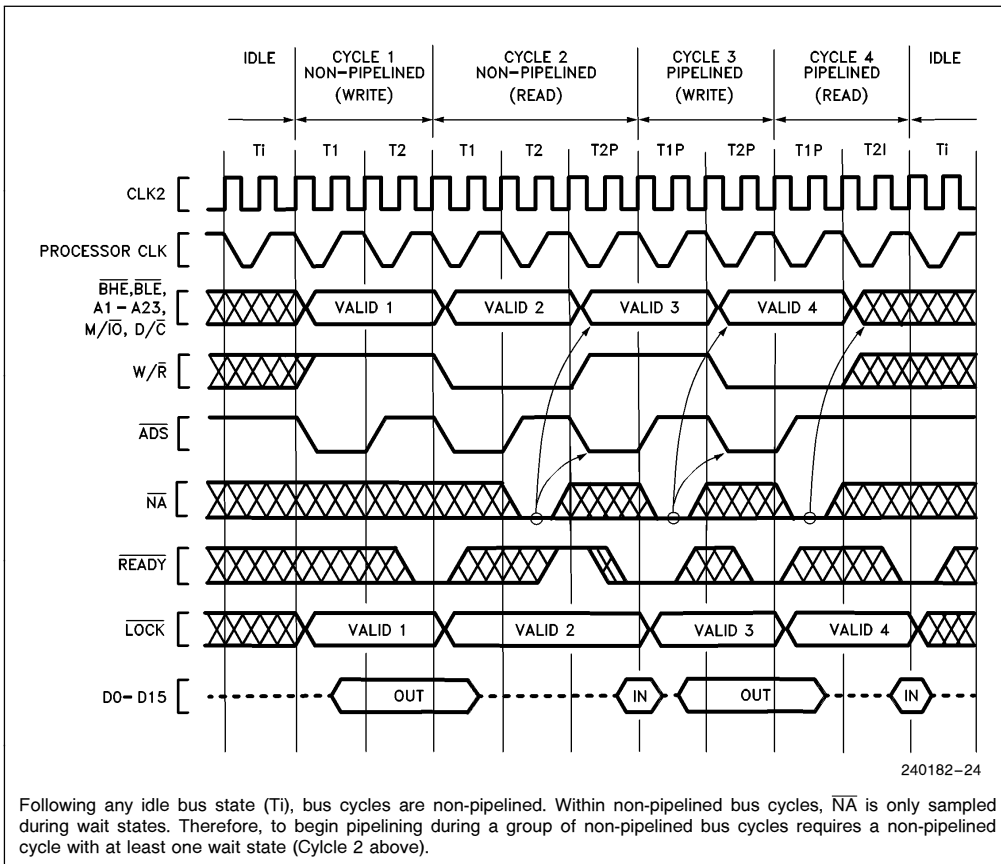
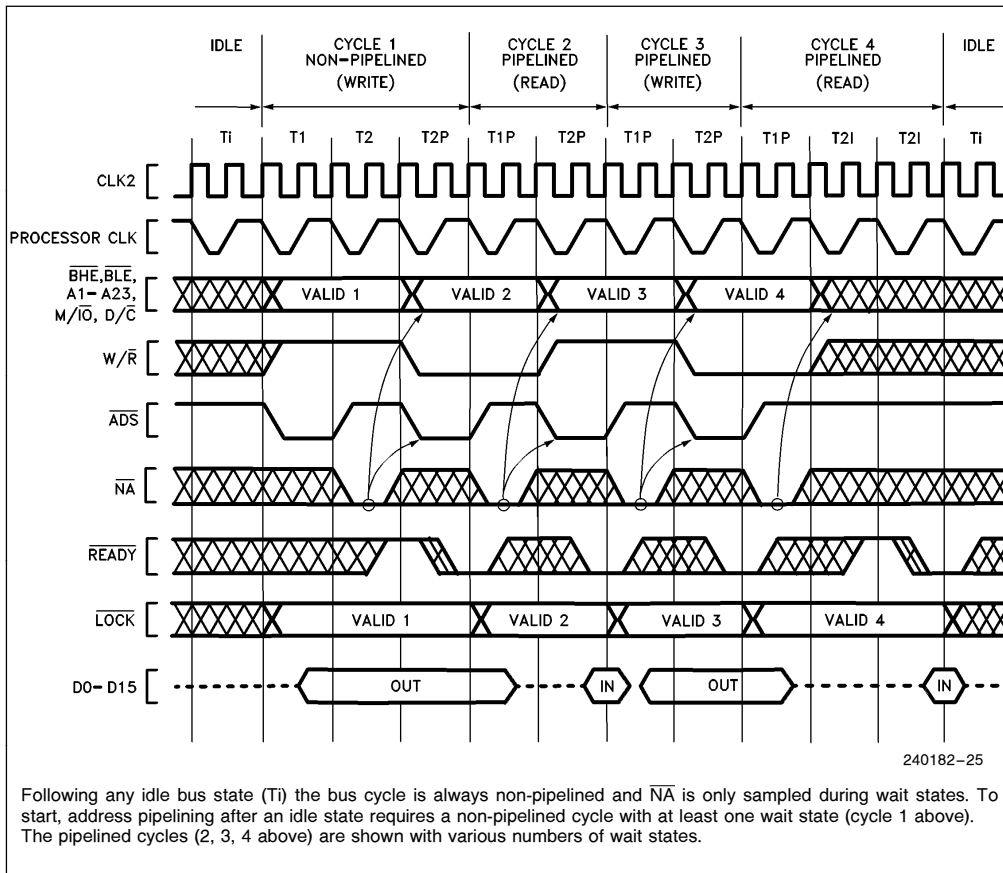
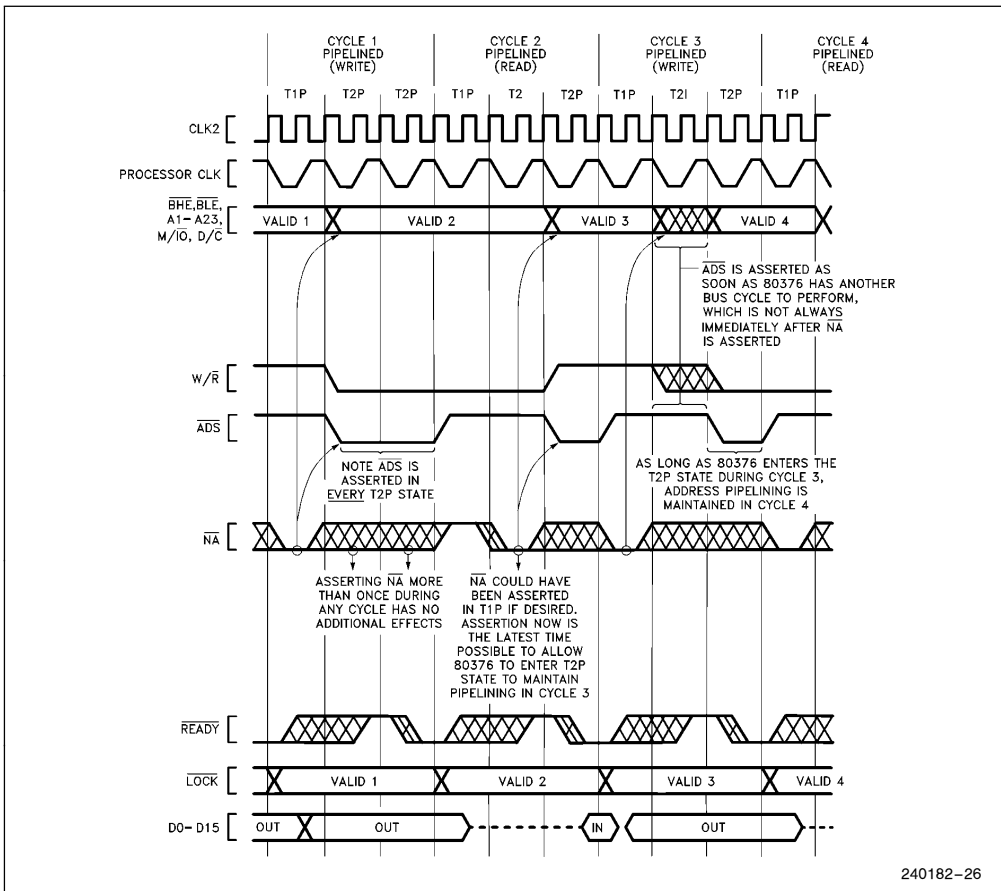

Figure 4.9. Transitioning to Pipelining during Burst of Bus Cycles
Figure 4.10. Fastest Transition to Pipelined Bus Cycle Following Idle Bus State
Figure 4.11. Details of Address Pipelining during Cycles with Wait States
Once a bus cycle is in progress and the current address has been valid for at least one entire bus state, the \overline{NA} input is sampled at the end of every phase one until the bus cycle is acknowledged. During non-pipelined bus cycles \overline{NA} is sampled at the end of phase one in every T2. An example is Cycle 2 in Figure 4.9, during which \overline{NA} is sampled at the end of phase one of every T2 (it was asserted once during the first T2 and has no further effect during that bus cycle).
1. The next address and status may appear as early as the bus state after \overline{NA} was sampled active (see Figures 4.9 or 4.10). In that case, state T_{2P} is entered immediately. However, when there is not an internal bus request already pending, the next address and status will not be available immediately after \overline{NA} is asserted and T_{2I} is entered instead of T_{2P} (see Figure 4.11 Cycle 3). Provided the current bus cycle isn't yet acknow-
2. Any address and status which are validated by a pulse on the 80376 \overline{ADS} output will remain stable on the address pins for at least two processor clock periods. The 80376 cannot produce a new address and status more frequently than every two processor clock periods (see Figures 4.9, 4.10 and 4.11).
3. Only the address and bus cycle definition of the very next bus cycle is available. The pipelining capability cannot look further than one bus cycle ahead (see Figure 4.11, Cycle 1).
The transition to pipelined address is shown functionally by Figure 4.10, Cycle 1. Note that Cycle 1 is used to transition into pipelined address timing for the subsequent Cycles 2, 3 and 4, which are pipelined. The NA input is asserted at the appropriate time to select address pipelining for Cycles 2, 3 and 4.
Sampling begins in T2 during Cycle 1 in Figure 4.10. Once \overline{NA} is sampled active during the current cycle, the 80376 is free to drive a new address and bus cycle definition on the bus as early as the next bus state. In Figure 4.10, Cycle 1 for example, the next address and status is driven during state T2P. Thus Cycle 1 makes the transition to pipelined timing, since it begins with T1 but ends with T2P. Because the address for Cycle 2 is available before Cycle 2 begins, Cycle 2 is called a pipelined bus cycle, and it begins with T1P. Cycle 2 begins as soon as \overline{READY} asserted terminates Cycle 1.
Examples of transition bus cycles are Figure 4.10, Cycle 1 and Figure 4.9, Cycle 2. Figure 4.10 shows transition during the very first cycle after an idle bus state, which is the fastest possible transition into address pipelining. Figure 4.9, Cycle 2 shows a transition cycle occurring during a burst of bus cycles. In any case, a transition cycle is the same whenever it occurs: it consists at least of T1, T2 (\overline{NA} is asserted at that time), and T2P (provided the 80376 has an internal bus request already pending, which it almost always has). T2P states are repeated if wait states are added to the cycle.
Note that only three states (T1, T2 and T2P) are required in a bus cycle performing a **transition** from non-pipelined into pipelined timing, for example Figure 4.10, Cycle 1. Figure 4.10, Cycles 2, 3 and 4 show that pipelining can be maintained with two-state bus cycles consisting only of T1P and T2P.
Once a pipelined bus cycle is in progress, pipelined timing is maintained for the next cycle by asserting \overline{NA} and detecting that the 80376 enters T2P during the current bus cycle. The current bus cycle must end in state T2P for pipelining to be maintained in the next cycle. T2P is identified by the assertion of \overline{ADS} . Figures 4.9 and 4.10 however, each show